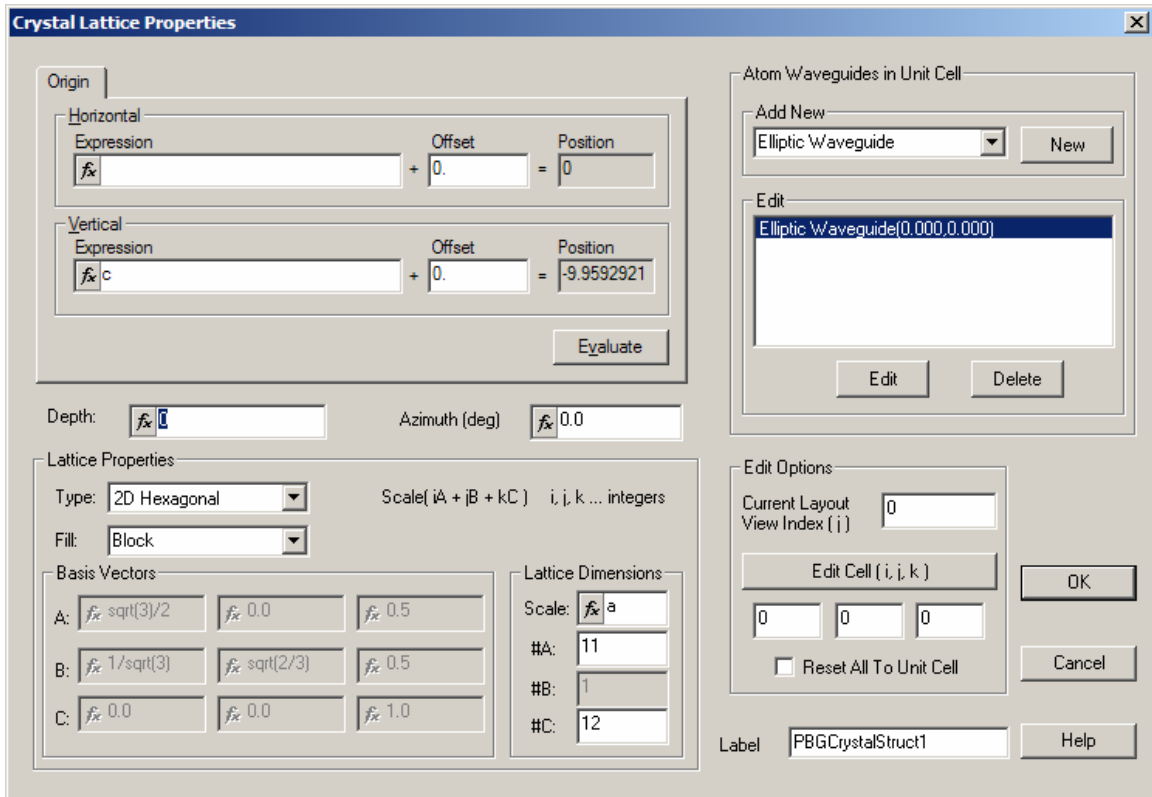

Figure 5 Crystal Lattice properties dialog box
14. To edit the crystal structure, double-click on the PBG structure (a rectangular shape) in the layout. *The **Crystal Lattice Properties** dialog box appears (Figure 5)*.